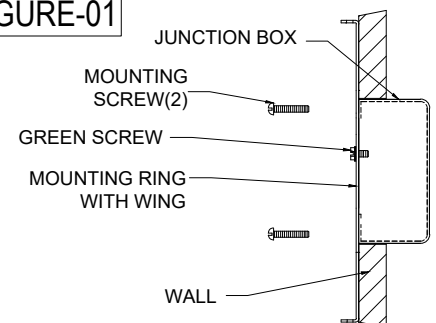

FIGURE-02
1. Attach the mounting ring with wing to the junction box. (The green screw should face out). (See FIGURE-02)